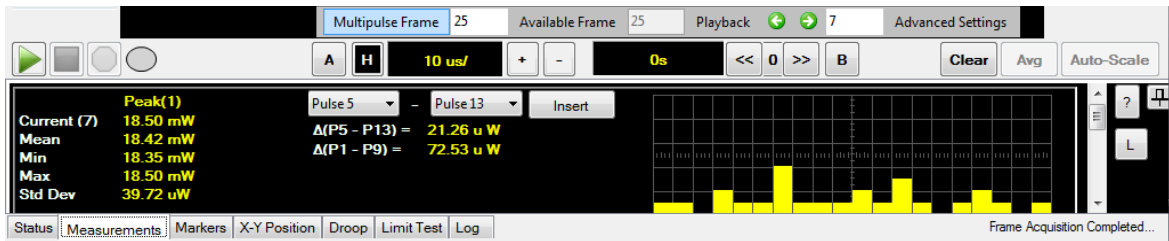

Figure 2-94 Measurement view in multipulse display
- 1 The Measurement view on the multi-purpose pane will display the desired measurement results of the multipulse and the histogram data as shown in Figure 2-94.
- 3 The delta value between two pulses can also be displayed from the measurement view as shown in Figure 2-94. Select **Insert** after selecting your desired pulses to display the delta value.